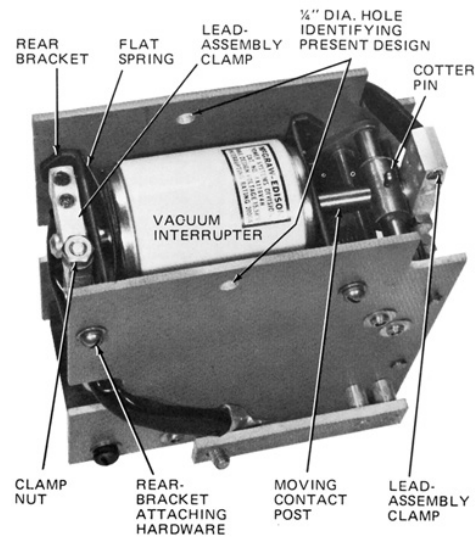

Figure 11. Type V6H vacuum contact-box assembly
7. Remove the four hex nuts, lockwashers, and flat washers that secure the exhaust and generating chambers to the contact-box assembly and remove both chambers by sliding them off the mounting bolts. Figure 11 shows the exhaust chamber removed from the contact-box assembly. Note the position of the insulating spacers.
Note: After reassembling the contact-box assembly, check for completely free entry of the moving contacts into the stationary-contact housing. Use No. 10 plain brass washers to adjust the position of the stationary-contact housing with respect to the moving contact (Figure 11).